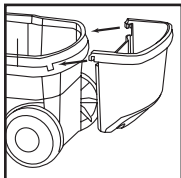

FIGURE 12
17. With rear of tank facing you, take accessory basket and position with tabs facing rear of tank. **FIGURE 12.**